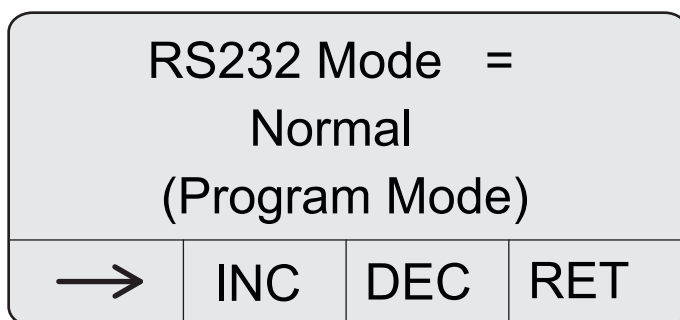

Figure 45 RS232 mode screen
1. Press **3 (SIO)** on the main screen to display the RS232 mode screen (refer to Figure 45).